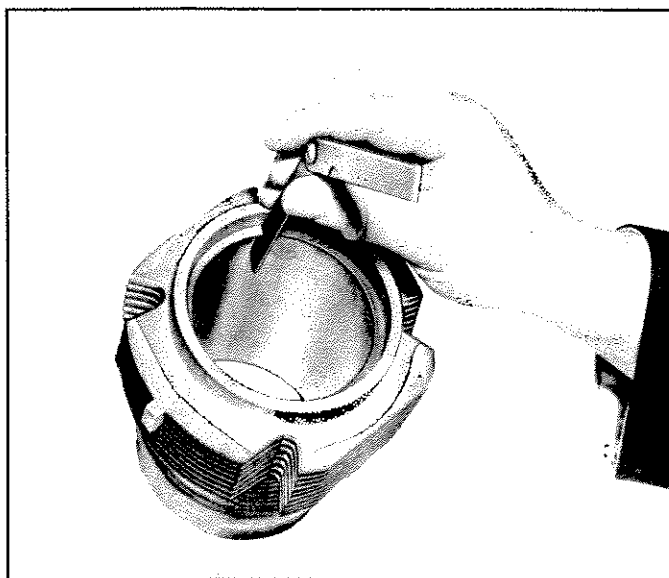

Fig. 103—Measuring Ring Gap
2. Measure the space or gap between the ends of the ring with a feeler gauge (fig. 103).